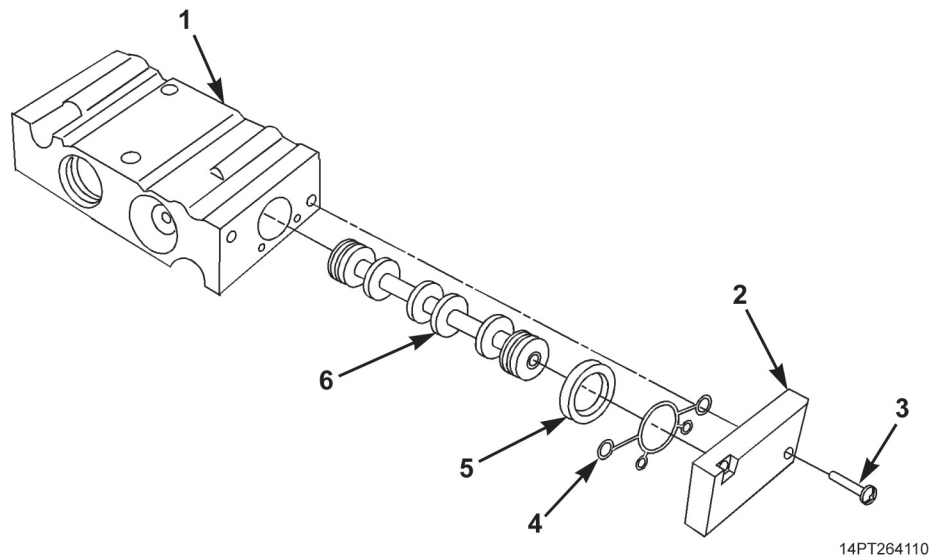

Figure 6. Valve Body End Cap and Valve Assembly.
1. Apply a light coat of grease to valve (Figure 6, Item 6).
2. Install valve (Figure 6, Item 6) in valve body (Figure 6, Item 1).
3. Install gasket (Figure 6, Item 4) and plastic insert (Figure 6, Item 5) on end cap (Figure 6, Item 2).
4. Position end cap (Figure 6, Item 2) on valve body (Figure 6, Item 1) and install two screws (Figure 6, Item 3).